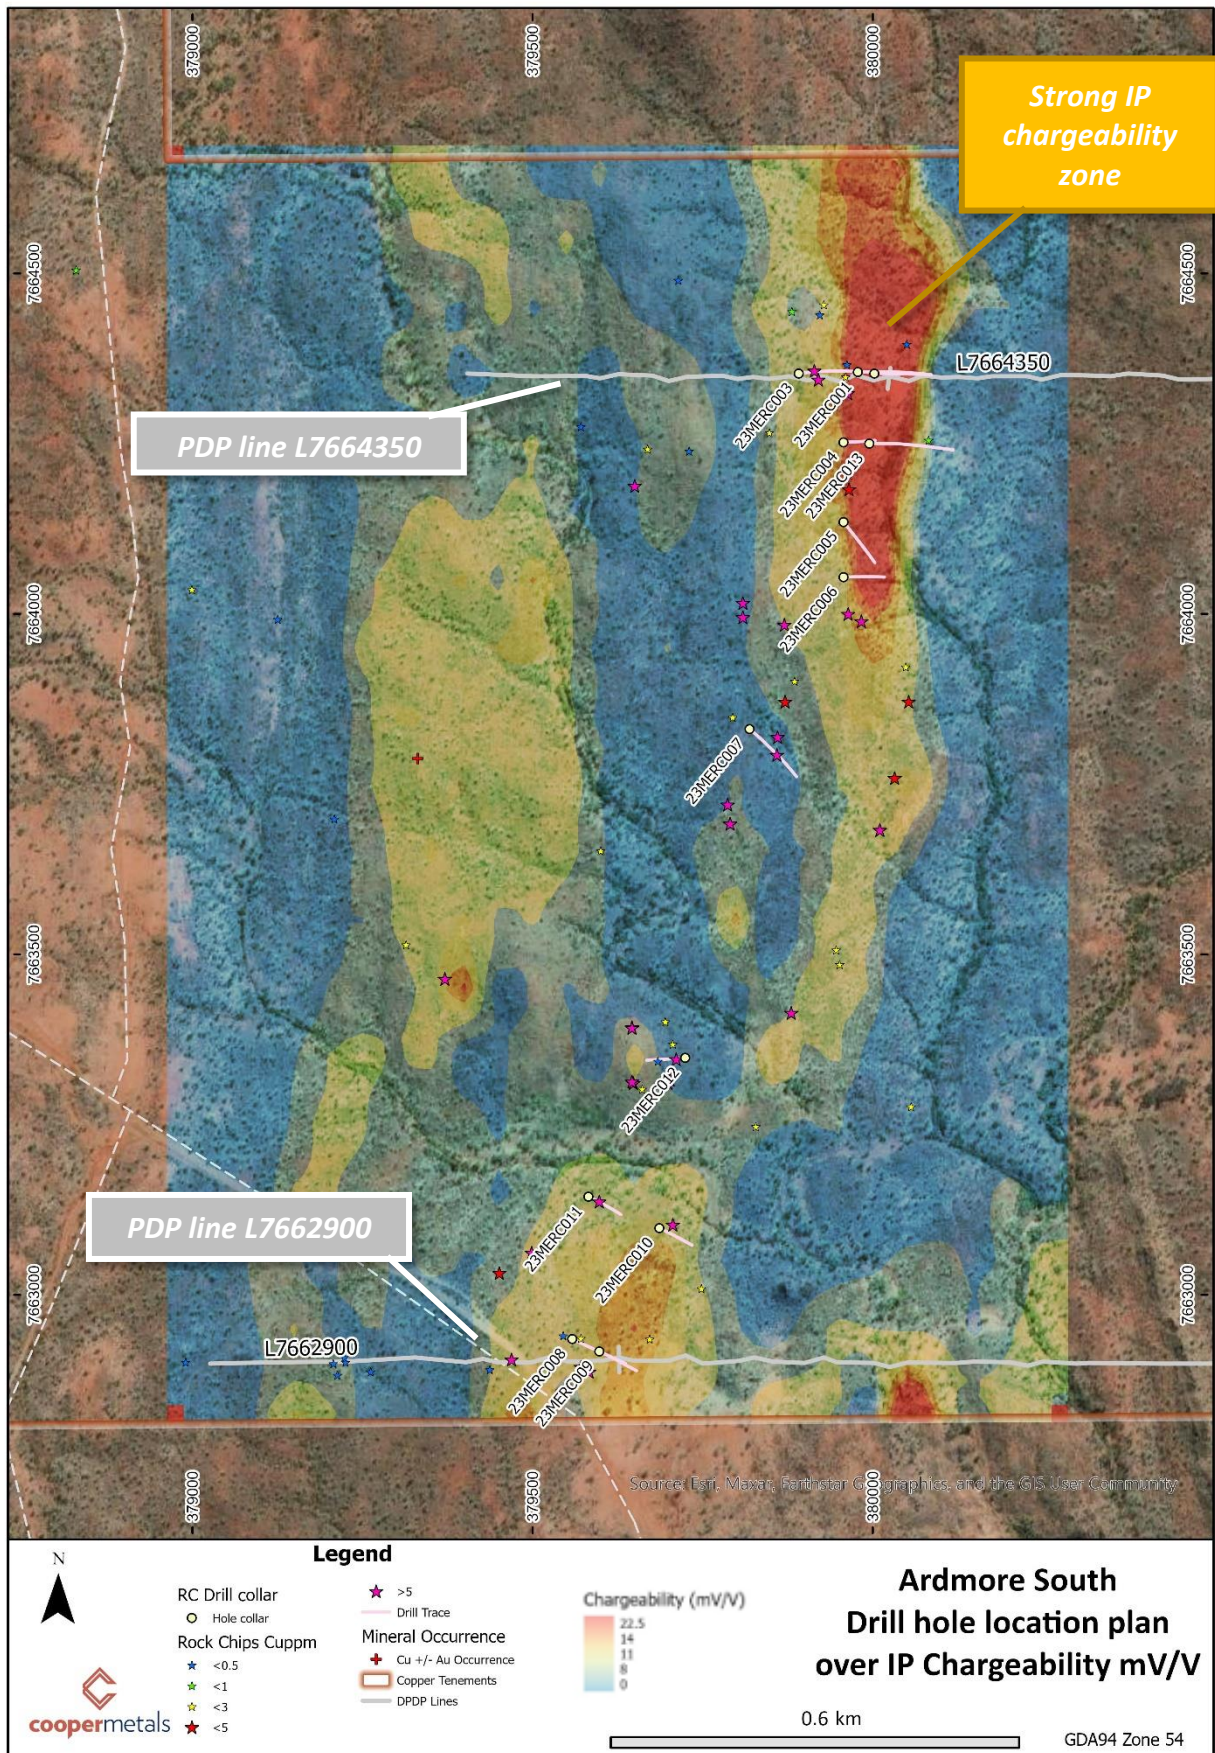

Figure 1: Location of rock chip samples and IP chargeability grid (mV/V) summary Ardmore South
Cooper Metals Limited (ASX: CPM) (“CPM” or “the Company”) provides an update on the preliminary drill results at Ardmore South reverse circulation (RC) drilling (Figure 1).
A total of thirteen RC drill holes for 1,745m were drilled at Ardmore South prospect primarily testing the 500m long north-south striking strong induced polarisation (IP) chargeability anomaly and coincident copper-gold anomalism identified in soil and rock chip samples1 (**Figure 1**).
Four drill holes (23MERC008 to 23MERC011) were drilled into the IP anomaly in the southern portion of the IP grid, including testing dipole-dipole (DPDP) IP line L7662900 (**Figure 1**). Similarly, to the north, the holes intersected broad zones of trace to disseminated pyrite dominated sulphides with the best chalcopyrite logged in 23MERC011, which contained 1m of 3-5% sulphides with 80% chalcopyrite and 20% pyrite (Plate 2).
Six hundred and eighty-five, one metre RC drilling samples (including QA/QC samples) taken from thirteen drill holes, were submitted to Australian Laboratory Services in Mount Isa in separate batches. The samples will be analysed for a suite of elements including copper and gold. One metre samples were selected by a geologist for laboratory analysis based on the observed geology in the drill chips and guided by a portable XRF machine, where copper was measured at >1000ppm. Samples immediately above and below the mineralised horizon were also selected for analysis. A list of RC drill holes and their locations appears in Appendix 1 and are shown in Figure 1.